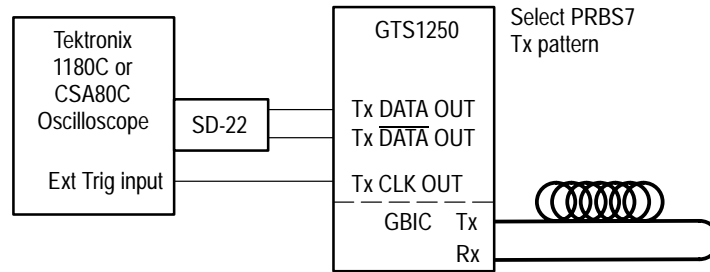

Figure 21: Tx Data duty cycle
3. Connect SMA cables between the GBIC Test System and the oscilloscope as shown in Figure 21.